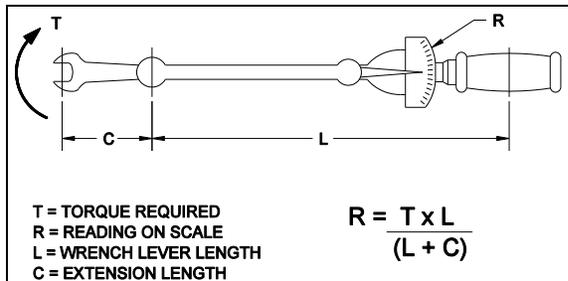

FIGURE 21 : TORQUE WRENCH FORMULA
Caution: Make sure all keyless bushings are tightened to 125 lb-ft before unlocking the pins or moving the slide-out. A lower torque value may cause the bushing to slip on the shaft, and a higher torque value may break the bushing. The torque may need to be recalculated depending of the wrench size. Refer to figure 21 for wrench size compensation.
To adjust and synchronize the rear slide-out pinions, tighten the keyless bushing to 125 lb-ft (refer to figure 21 for wrench size compensation) after having centered the pinion in its rack. Take note that when the keyless bushing nut is tightened, the pinion moves about 1/16" to 3/32" toward the slide-out center.
3. On the driver side, tighten the upper shaft keyless bushing to 125 lb-ft (refer to figure 21 for wrench size compensation). Make sure the pinion is centered and fits well in its rack to eliminate any possible backlash. Take note that when the keyless bushing nut is tightened, the pinion moves about 1/16" to 3/32" toward the slide-out center.
5. On the lower shaft, tighten the left-hand side keyless bushing to 125 lb-ft (refer to figure 21 for wrench size compensation).